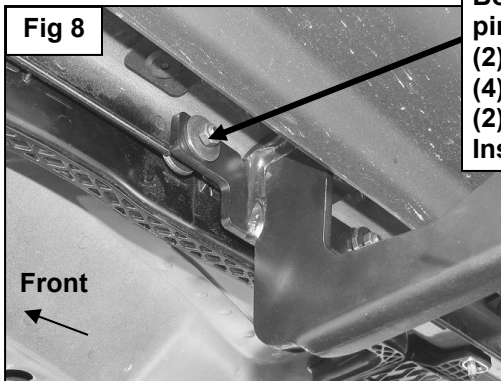

Fig 8
- Select (1) passenger side Mounting Bracket. Hang the Bracket from the Bolt Plate with (1) 12mm Flat Washer and (1) 12mm Flange Nut, (**Figures 6 & 7**). Next, bolt the mounting plate on the Bracket to the front of the pinch weld with (2) 6mm x 25mm Hex Bolts, (4) 6mm Flat Washers and (2) 6mm Nylon Lock Nuts, (**Figure 6**). **NOTE:** Insert 6mm Hex Bolts with Flat Washers through the back of the pinch weld first, and then out through the Bracket. **IMPORTANT:** The passenger side of the vehicle may have a wiring harness attached behind the pinch weld, (**Figure 7**). Remove the hex nuts and drop the harness down before installing the Brackets. 6mm Hex Bolts install from the inside first, then through the Bracket to clear the harness, (**Figure 8**). Snug but do not fully tighten hardware at this time.